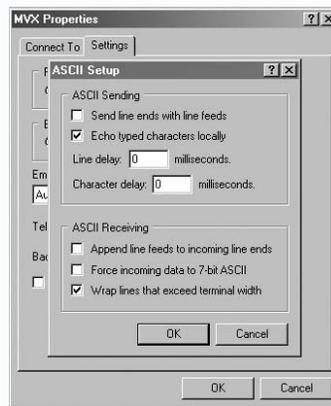

Figure 22. Turn on the Echo Function
- The firmware upload can take several minutes. If the echo function of HyperTerminal is turned off, you will have no indication that the upload is progressing. If desired, turn on the echo function as follows (see **figure 22**): Click **File > Properties > Settings > ASCII Setup...**, check the **Echo typed characters locally** checkbox, and then click **Ok** twice.